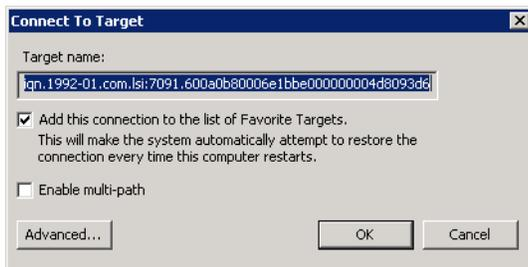

Figure 4-41 Connecting targets
6. After we have the target added, we need to proceed to connect them to the iSCSI client. Click the **Connect** button and follow the steps proposed as shown in Figure 4-41.